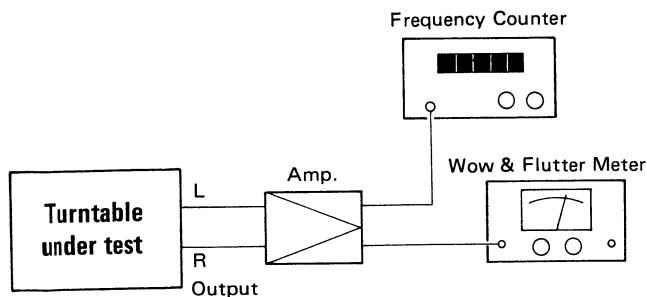

Fig. 4-11
1. Connect a wow and flutter meter as shown in Fig. 4-11.